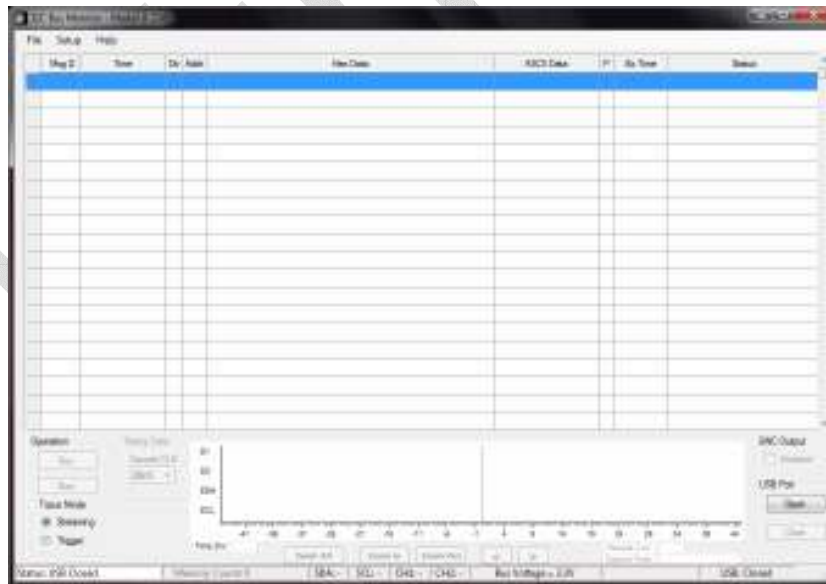

Figure 1. I2C Bus Monitor Main Window
4. Verify that the I2C Bus Monitor main window is displayed as shown in figure 1.